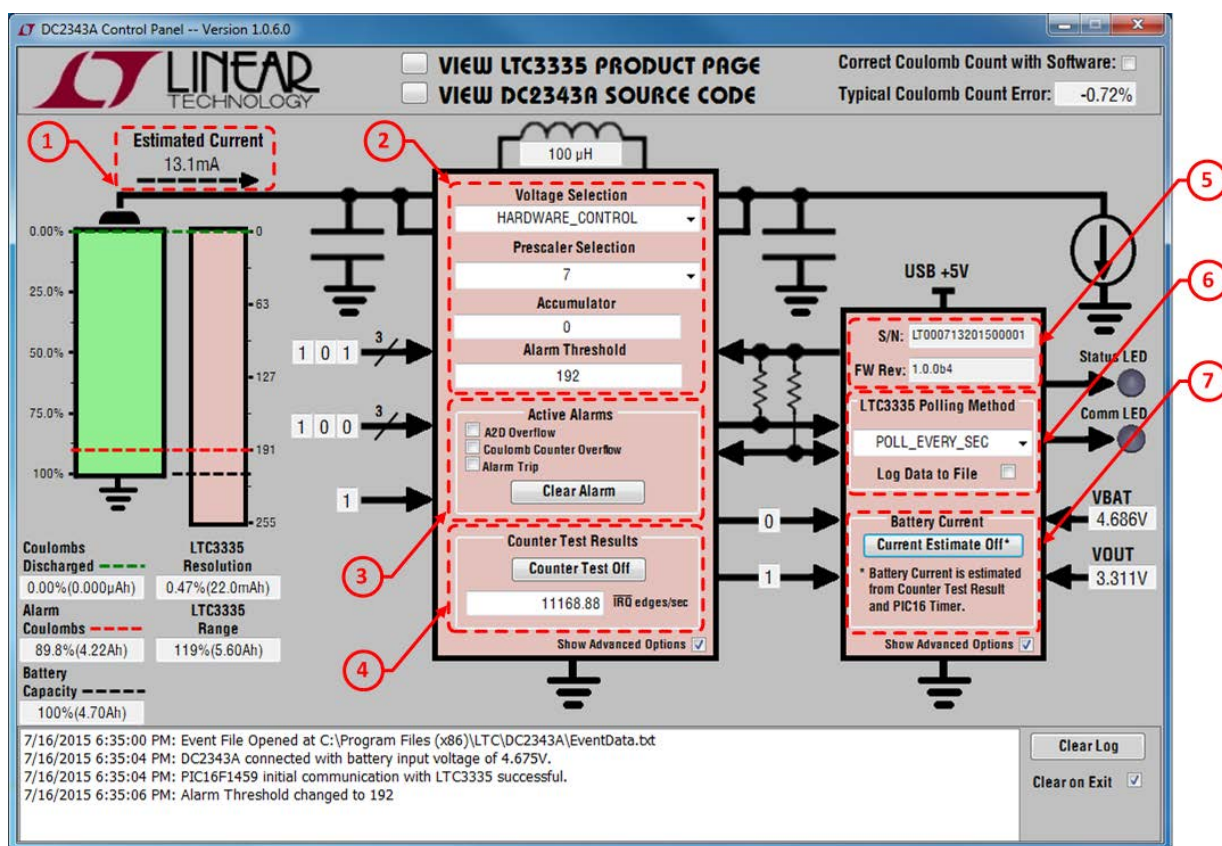

Figure 12. Control Panel Window—Advanced Options
7. The GUI can also show an estimated battery current. In order to demonstrate that GUI feature. Activate the battery current measurement feature described in Figure 12, item 7. In order to implement this feature, the PIC16F1459 on the DC2343A counts edges on the  $\overline{\text{IRQ}}$  pin over time, which can then be converted to coulombs per second.
5. Checking this box will expose additional controls for the LTC3335. See the control panel advanced mode in Figure 12.
7. Checking this box will expose additional controls for the PIC16F1459. See the Control Panel Advanced Mode in Figure 12.
When the Show Advanced Options checkbox is selected for the LTC3335 and PIC16F1459 on the control panel, several additional controls are exposed to the user. These controls are in Figure 12.